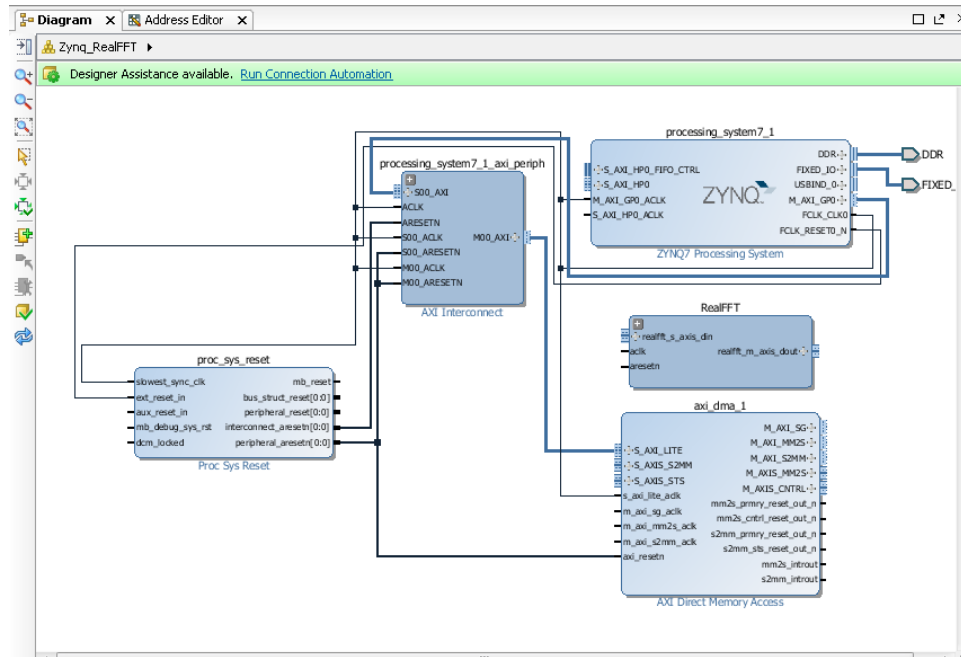

Figure 259: Zynq Diagram with Internal Connections
22. Double-click the **axi_dma_1** component to open its Re-customize IP dialog and make the following changes (Figure 259):